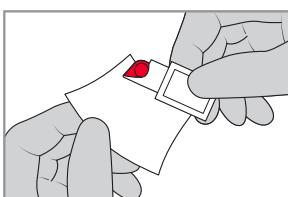
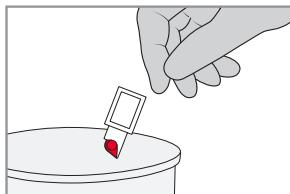

FIGURE 3-7
FIGURE 3-11
- d) To complete the measurement follow steps g-l and FIGURE 3-7 to FIGURE 3-11 in section 3.1 Capillary blood. Make sure to start the measurement as soon as possible but no later than 10 minutes after filling the Cuvette.